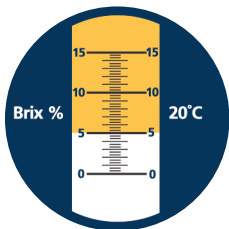

Figure 2. A typical refractometer scale
Place a few drops of water (used for the mixture) between the plastic cover (6) and the prism (7). Hold the refractometer horizontally and point it at a light source. Look into the eyepiece (1) and adjust the scale calibrating knob (4) until the boundary line which separates the light and dark areas of the scale is aligned with the zero line on the scale. Figure 2 depicts a typical refractometer scale.
A 5.0 reading on the refractometer scale, as seen in Figure 2 multiplied by the refractometer factor of 1.25 yields a 6.25% concentration of product.